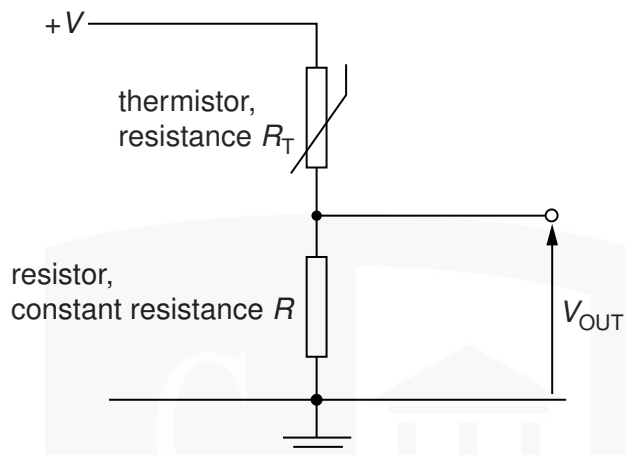

Fig. 9.1
- (b) A student designs the circuit of Fig. 9.1 to detect changes in temperature in the range 0°C to 100°C .